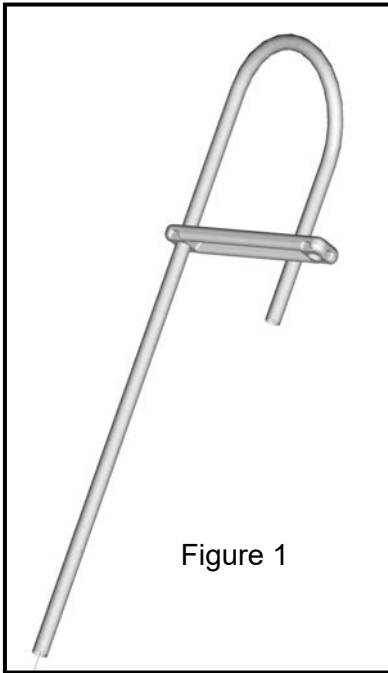

Figure 1
- Slide 1 of the 4 ladder steps onto one of the stainless steel handrails. See figure 1